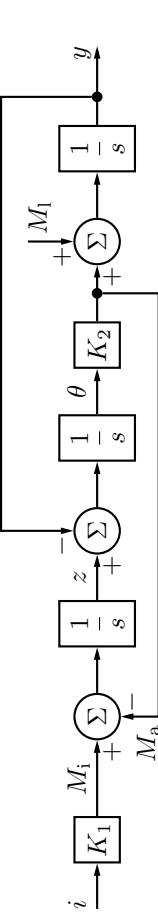

Figure 8.3a
- 8.3 The block diagram in Figure 8.3a describes an electric motor that drives a load via an elastic axis. Here i is the driving current to the motor, which gives the torque M_i . z is the turning rate of the motor and y is the turning rate of the load. θ is the angle of the transmission axis. $M_a = K_2\theta$ is the torque this angle causes. M_f is the torque from the load. Give a state space description for the system with M_i and i as inputs and y as output. (There are at least two different ways to solve this problem.)